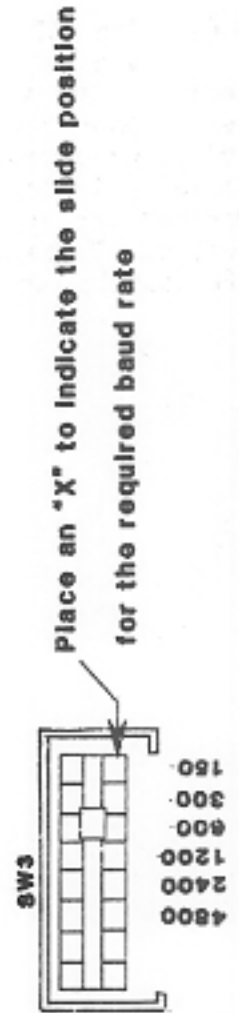

Figure 4-2 A-SMDR-A Option Record Form.
3.01 The PCB OPTION FORM (Refer to Figure 4-2) is used to indicate the positions of switches SW1 (SW1-8 should be in the OFF position) and SW2 for selecting optional features. Reference Table 2-1 to determine the settings desired for the eight positions of each switch. Place an X in either the ON or OFF position on the PCB Option Form.
2.02 Remove the plastic covers on the SW1 and SW3 switch groups on the A-SMDR-A PCB. Set the SPST switches as shown on the PCB OPTION FORM (refer to figure 4-2). After replacing the plastic covers, insert the A-SMDR-A PCB in the MISC-1 position of the KSU.